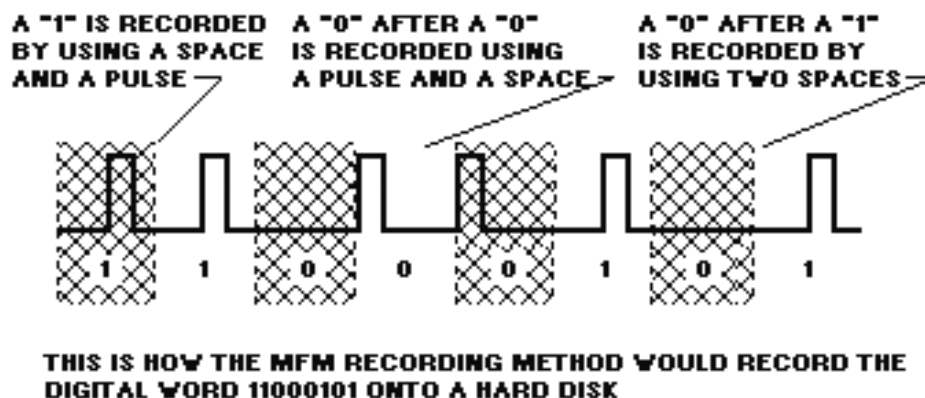

Figure 8-8.—Modified frequency-modulation (MFM) encoding.
2. It stores a digital "1" by generating a *no-pulse* and a *pulse* in the two pulse periods. It stores a digital "0" as either a *pulse and a no-pulse* if the last bit was a "0," or as two *no-pulses* if the last bit was a "1." Figure 8-8 shows this.